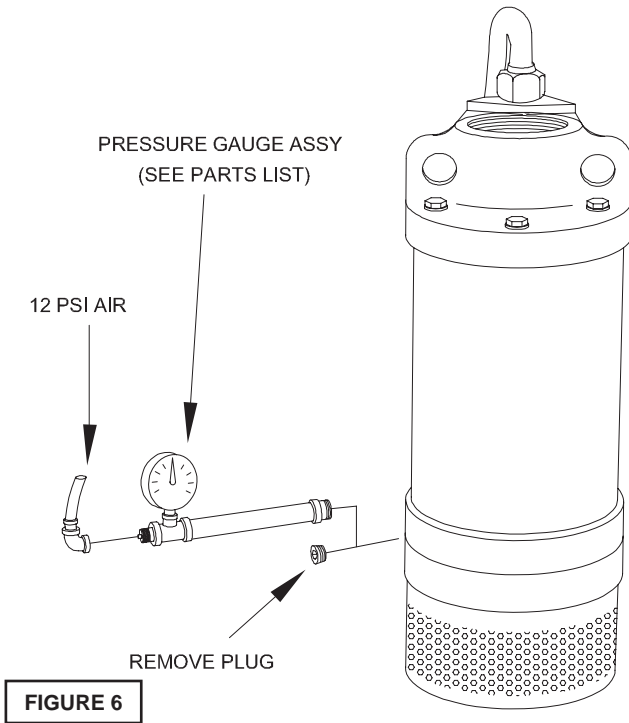

FIGURE 6
Remove pipe plug (42) from diffuser (9) and check that the seal chamber is of the correct amount of oil (See Figure 6). Apply pipe sealant to pressure gauge assembly and tighten into hole in Intermediate diffuser (9). Pressurize seal chamber to 12 P.S.I. and check for leaks.